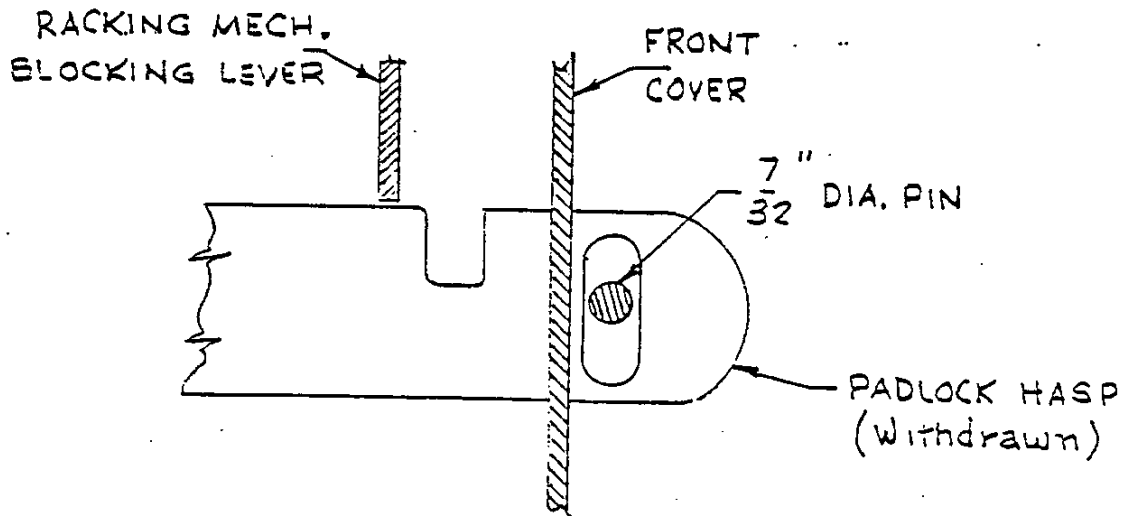

FIGURE G-2
15. The padlock hasp (furnished only when specified) shall be checked with a 7/32" diameter pin inserted in the padlock slot, against the front of the front cover (See Figure G-2). With the pin installed, it shall be impossible to release the racking unlocking lever. With the breaker in the connected position, the hasp cannot be pulled out to install the pin. The breaker can be closed or opened with the pin installed.